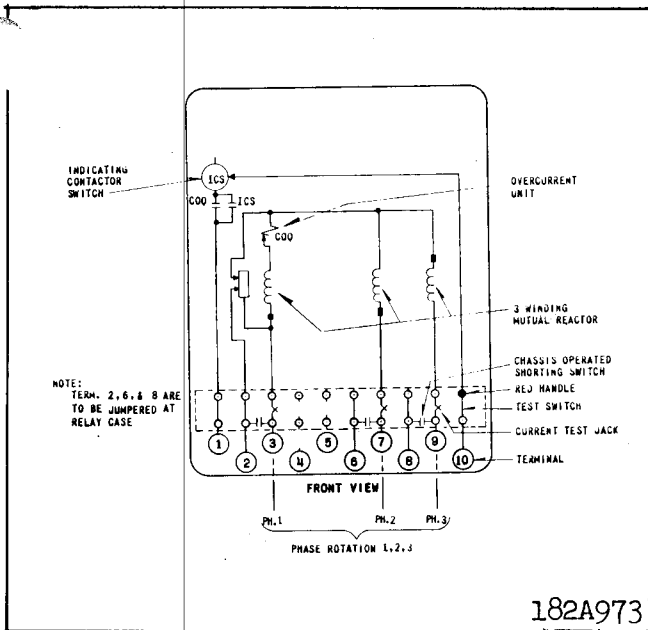
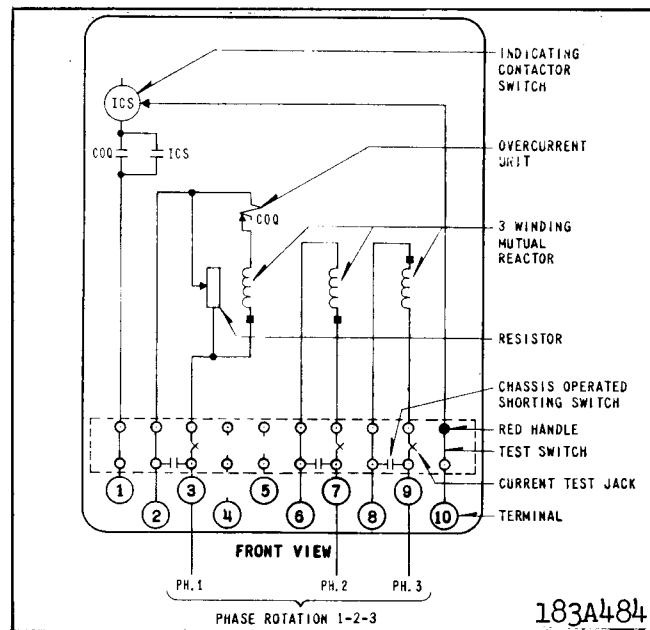

Fig. 2. Internal Schematic of the Type COQ Relay in the FT21 Case - Neutral Formed in Relay.
Fig. 3. Internal Schematic of the Type COQ Relay in the FT21 Case - For Forming Neutral External to Relay.
- e. Now measure the voltage across the resistor. Adjust top filter resistor position until this voltage is 1.73 times the reading from (d) above. (For relays wired per figure 2 connect the voltmeter to switch jaw 3 and to the top filter resistor screw connection (see figure 1). (For relays wired per figure 3 connect voltmeter across switch jaws 2 and 3.)